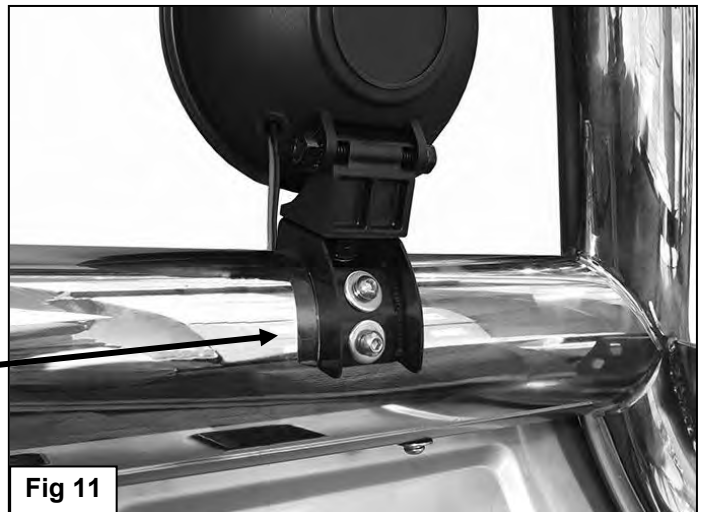

Fig 11
- a. Select (1) Light Mount, **(Figure 10)**. Use the hardware included with the light to attach the light to the top of the Light Mount. If light has a separate tilt feature, fully tighten base mounting hardware, **(See example Figure 11)**. If light adjusts with the base mounting hardware, skip to **Step 15b**.
- b. Remove the rubber plug on the top of the crossbar. Attach the light and Light Mount to the back of the Bull Bar with the included (4) 6mm x 20mm Button Head Bolts, (4) 6mm Lock Washers and (4) 6mm Flat Washers, **(Figure 11)**. **NOTE:** If light adjusts with the base mounting hardware, hand-tighten the light hardware; do not fully tighten hardware at this time. You may have to install, adjust, remove light with Bracket and readjust a few times to get the light properly adjusted.